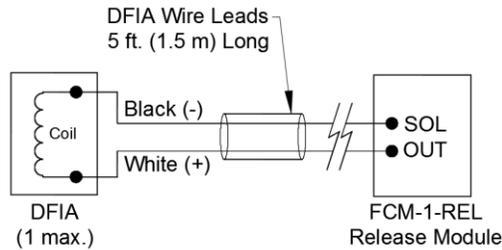

Figure 1 DFIA Wiring
1. Connect the DFIA wire leads to the Notifier FCM-1-REL releasing control module as shown in Figure 1. The DFIA is not polarity sensitive. Refer to the installation instructions supplied with the Notifier module for correct terminal connections.